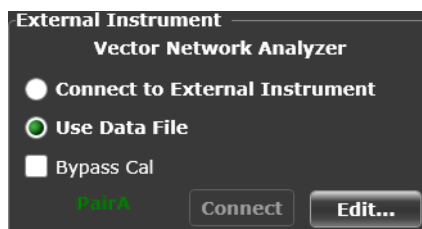

Figure 47 VNA pair information after the test application detects the data file
- 15 Once the 25GBASE-T Ethernet Test Application detects the user file, it is indicated on the **Set Up** tab as shown in Figure 47.